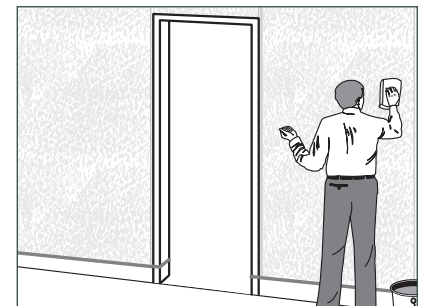

FIGURE 6
- Adhesive residue may make panels appear stained and will collect dirt. Remove any adhesive residue upon completion of the job. To remove latex-based adhesive, clean with a non-abrasive cotton cloth and warm water. If necessary, use a mild, non-abrasive detergent. For best results, change water and cleaning rags frequently. For clean-up with solvent based adhesives, use mineral spirits or acetone to remove residue (Figure 6).